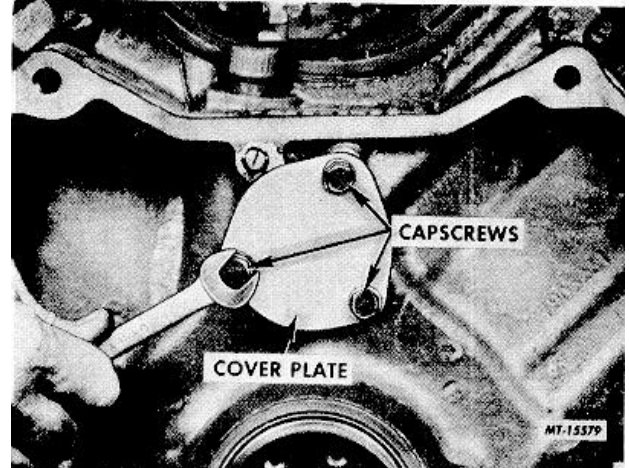

Fig. 52 Removing Camshaft Cover Plate
44. Loosen three capscrews and lockwashers and remove camshaft cover plate and gasket from end of block (Figure 52).